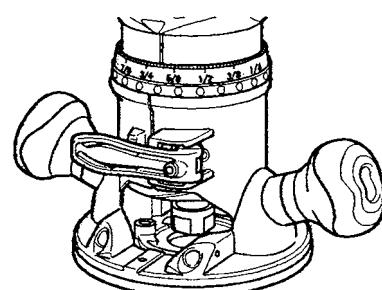

Fig. 3
For the conventional routers, there was a fear that the housing might slide down by its own weight when adjusting the cutting depth while the lever was in the released position (Fig. 1) or the cutting depth might be changed when shifting the lever from the released position to the secured position (Fig. 3). Because the new lever of the Models M 12VC, M 12SC, KM 12VC and KM 12SC can lightly secure the housing at the temporarily secured position (Fig. 2), the housing does not slide down by its own weight and the cutting depth is not changed when shifting the lever to the secured position. In addition, the cutting depth is finely adjustable thanks to the temporary securing function. How to use the 2-stage lock lever is exemplified below.
③ Fixed position (Fig. 3)